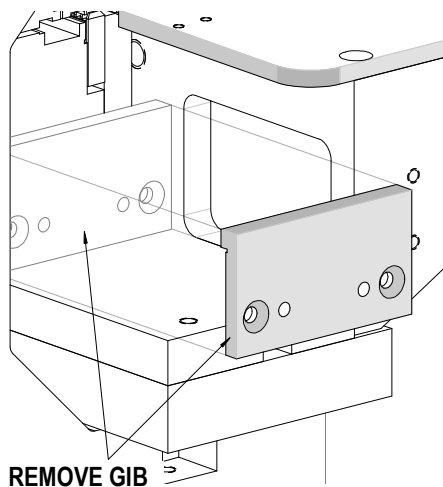

Figure 4-2
1. Remove the gib from the left side of the termination nest as shown in Figure 4-2.